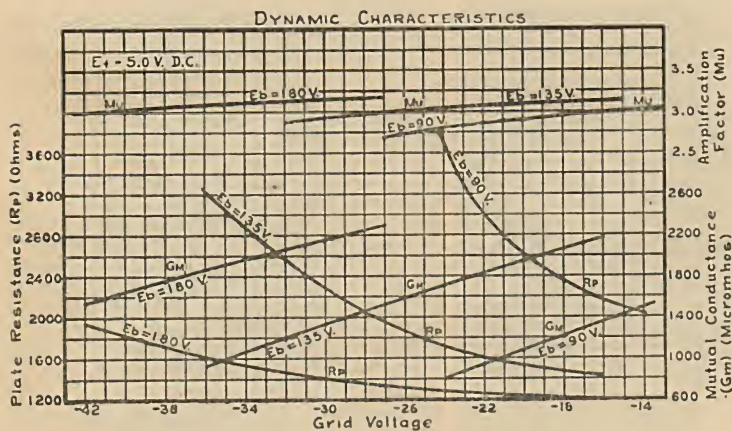

Fig. 14
**Dynamic Characteristics**—Fig. 14 shows the effect of grid voltage upon the amplification factor, mutual conductance and plate resistance.